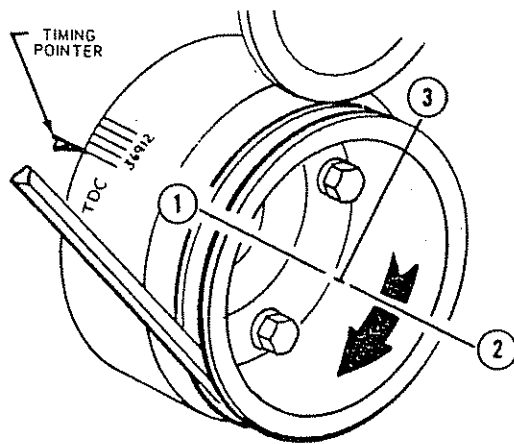

FIG. 36 Position of Crankshaft for Checking and Adjusting Valve Clearance
3. With the No. 1 piston on TDC at the end of the compression stroke, POSITION 1 in Figure 36, check the following valves:
4. Rotate the crankshaft to POSITION 2 in Figure 36 and check the following valves:
5. Rotate the crankshaft to POSITION 3 in Figure 36 and check the following valves:
6. With the No. 1 piston on TDC at the end of the compression stroke, POSITION 1 in Figure 36, set the valve clearance on the following valves:
7. Rotate the crankshaft to POSITION 2 in Figure 36 and set the valve clearance on the following valves:
8. Rotate the crankshaft to POSITION 3 in Figure 36 and set the valve clearance on the following valves:
2. Position the crankshaft as outlined in Figure 36. Position a hydraulic lifter compressor tool on the rocker arm and slowly apply
3. With the No. 1 piston on TDC at the end of the compression stroke, POSITION No. 1 in Figure 36, check the following valves:
4. Rotate the crankshaft to POSITION No. 2 in Figure 36 and check the following valves:
5. Rotate the crankshaft to POSITION No. 3 in Figure 36 and check the following valves:
7. With the No. 1 piston on TDC at the end of the compression stroke, POSITION No. 1 in Figure 36, inspect the stud nut and install the stud nut on the following valves:
8. Rotate the crankshaft to POSITION No. 2 in Figure 36. Inspect and install the stud nut on the following valves:
9. Rotate the crankshaft to POSITION No. 3 in Figure 36. Inspect and install the stud nut on the following valves: